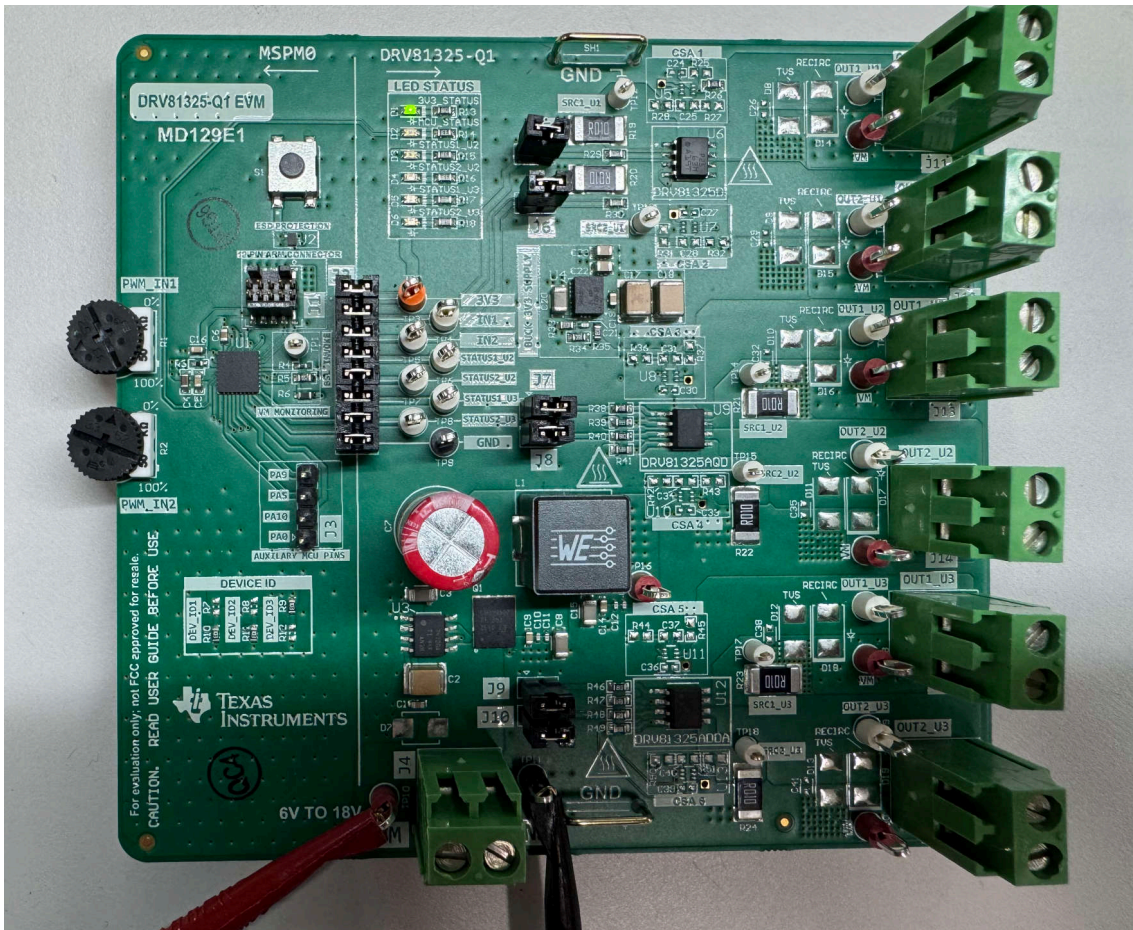

Figure 2-9. Hardware Setup
4. Set up is now complete. See Figure 2-9 for setup image.